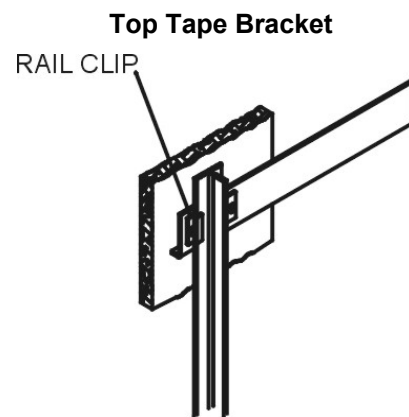

Figure 1-20
- Mount top tape support bracket on the main guide rail high enough so that the car, sitting on a compressed counterweight buffer, would not strike the bracket. [See Figure 1-20 & section 1-15.]